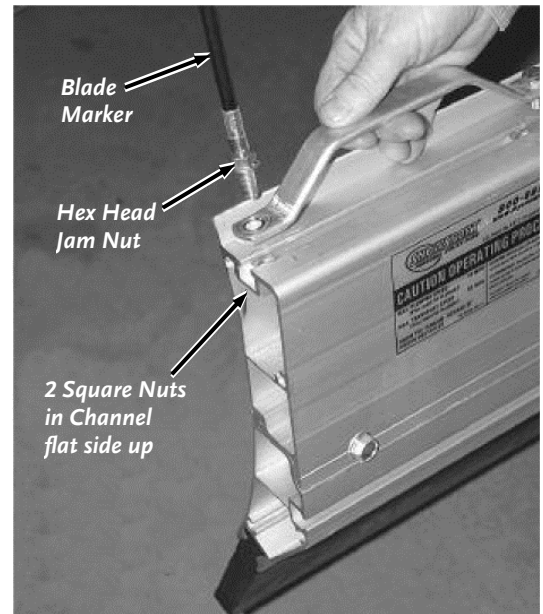

Figure 23
23. Insert two square nuts into top channel (**Figure 23**). Turn a hex head jam nut onto the stud of blade marker and align marker with hole on lift handle and bolt marker and handle to blade using square nut in channel.